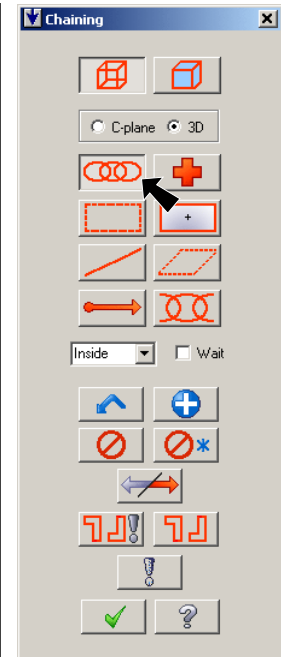

Fig. 33
Step 4. Select **Chain**  in Chaining dialog box, Fig. 33.